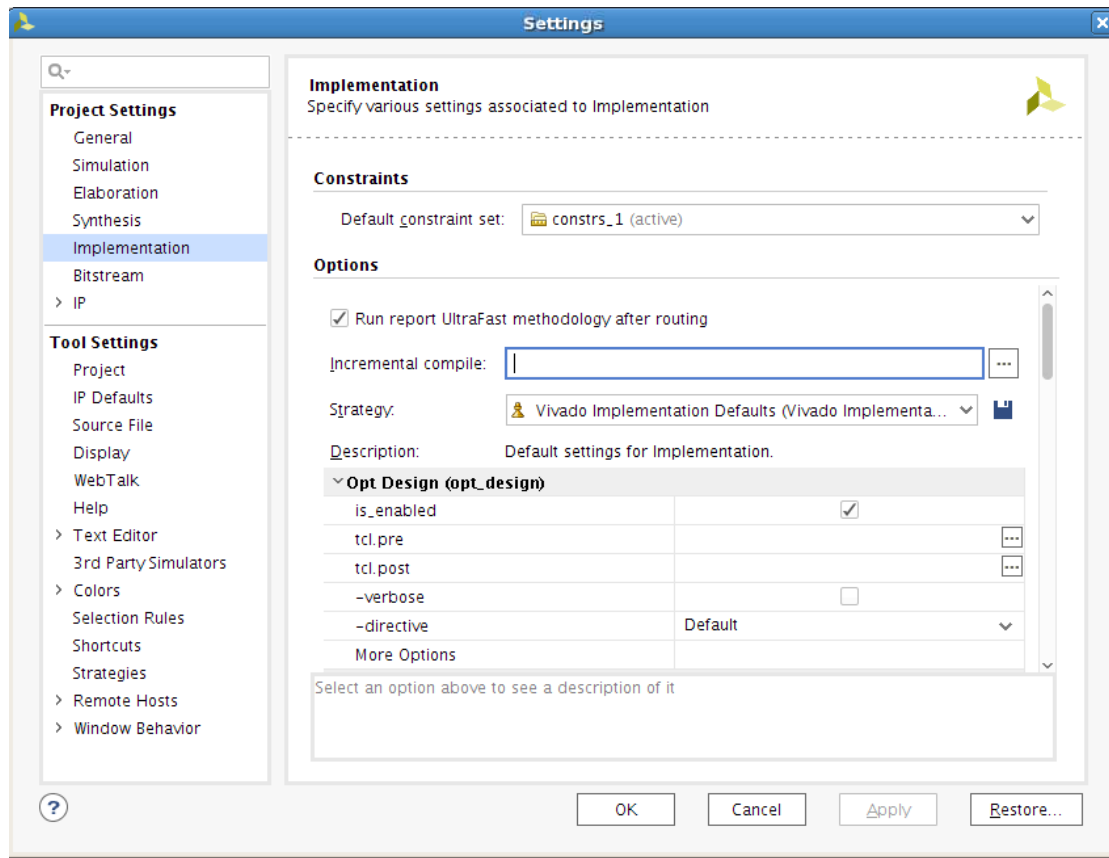

Figure 2-23: Setting Incremental Compile
3. Set up Incremental Compile using the Incremental Compile dialog box as shown in Figure 2-23.